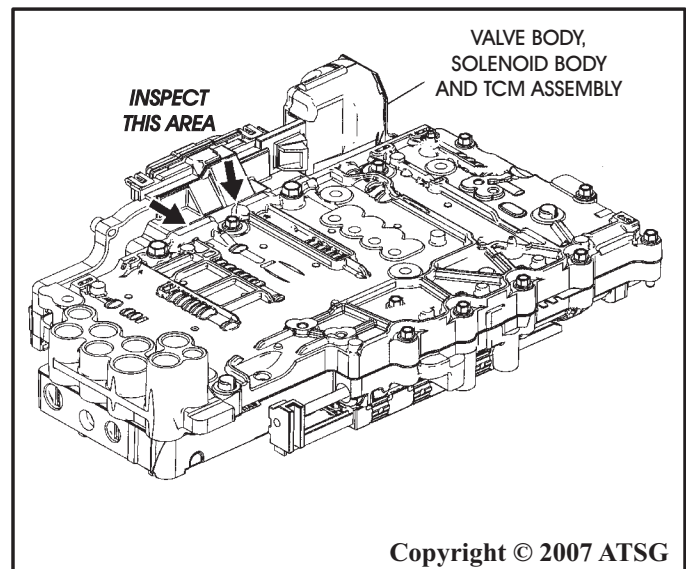

Figure 150
32. Inspect the contact area between the "heat sink" area of the Solenoid Body/TCM assembly and valve body assembly, as shown in Figure 150.